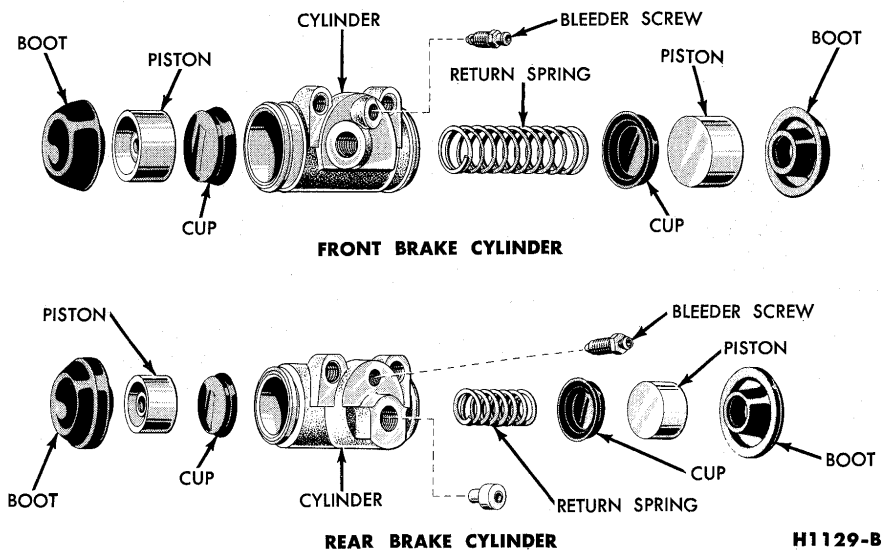

FIG. 8—Front and Rear Wheel Cylinders
1. Remove the rubber boots (Fig. 8).
3. Insert the return spring, cups, and pistons (Fig. 8) in their respective positions in the cylinder bore. Place a boot over each end of the cylinder.